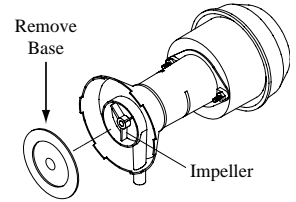

Fig. 5
- **Clean pump.** Cleaning the pump is necessary once a year at start-up. For your safety, turn unit off and unplug unit and pump. Remove the pump from the mount slot. Remove the base of the pump (Fig. 5). Clean the pump and turn the impeller to ensure free operation. Remove the pump spout and check for any blockage. After cleaning, reinstall the base onto the pump. Press firmly to make sure it is secure. Reattach the pump to the mount in the cooler using the plastic retainer to ensure that the pump will not overturn. Do not forget to replace the spout and water delivery tube onto the pump outlet.